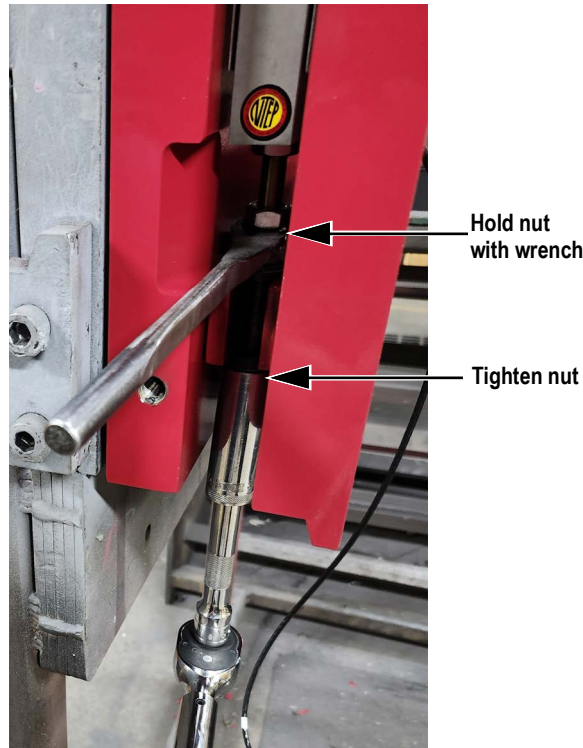

Figure 7-9. Tighten Bottom Hex Nut
6. While holding the hex nut (#14) in place with a modified box wrench, tighten the bottom (#18) hex nut to 110 lb-ft using a torque wrench (see Figure 7-9).